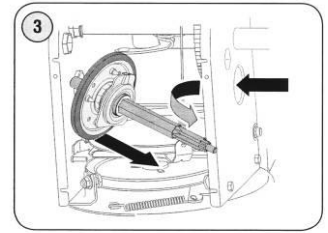

Figure 26
**NOTE:** If you're replacing the friction wheel assembly as a whole, discard the worn part and slide the new part onto the hex shaft. Follow the steps above the friction wheel and replacing only the rubber ring, proceed as follows. See Figure 26.